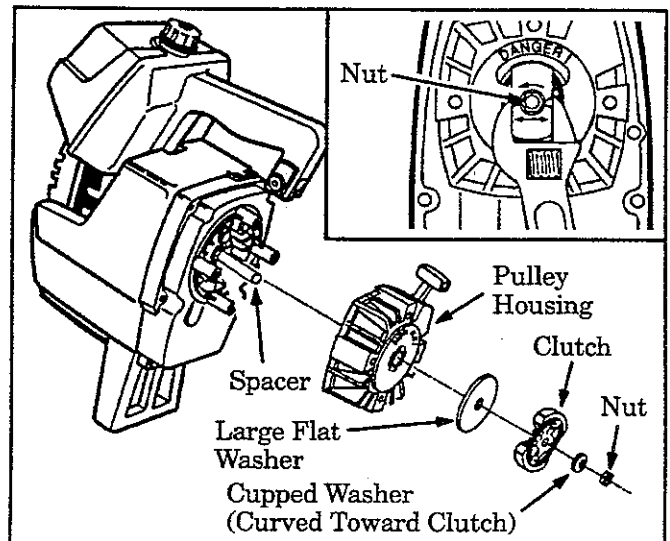

Figure 32
5. Hold the "flats" of the clutch with an adjustable wrench as shown in Figure 32 (inset) and remove the Nut counterclockwise with a 9/16" wrench.
6. Remove the cupped washer, clutch, and large flat washer as shown in Figure 32 .
7. Remove pulley housing from unit. Figure 32 .
21. Make sure spacer is in place as shown in Figure 32 , then reverse steps 1 through 7 to re-assemble.